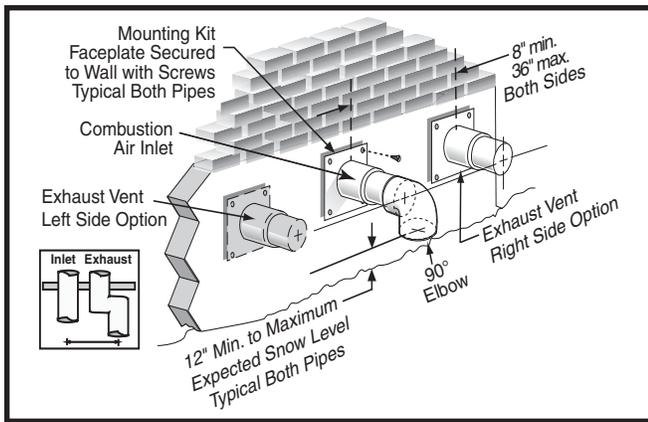
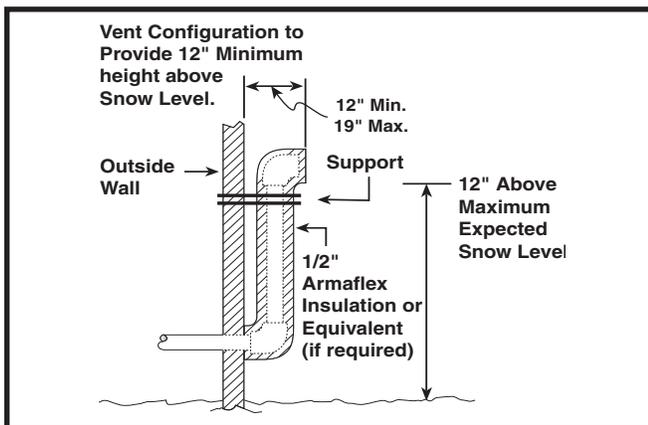
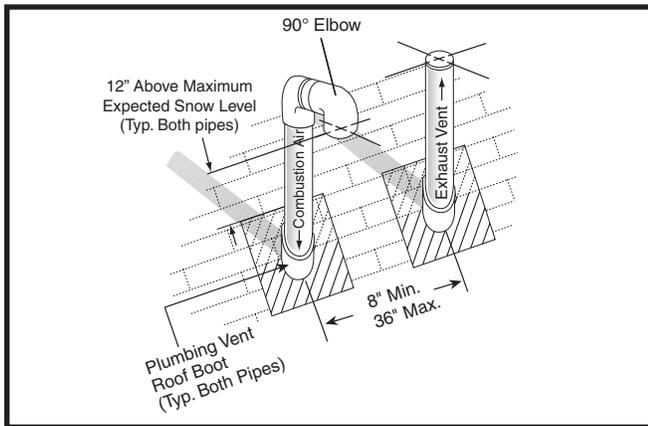

Figure 6. Exhaust and Combustion Air Pipe Clearances
Figure 8. Alternate Horizontal Vent Installation
Figure 9. Vertical Vent Termination
- The combustion air intake and the vent exhaust must be located in the same atmospheric pressure zone. This means both pipes must exit the building through the same portion of exterior wall or roof as shown in Figures 6 - 9 (page 12 - 13) and Figure 41 (page 44).
Vent and combustion air intake terminations shall be installed as depicted in Figures 6 - 7 (page 12) and in accordance with these instructions:
- When the vent pipe must exit an exterior wall close to the grade or expected snow level where it is not possible to obtain clearances shown in Figure 6, a riser may be provided as shown in Figure 8 (page 12). Insulation is required to prevent freezing of this section of pipe. For vent freezing protection, see page 13.
The combustion air vent and exhaust vent must be configured as shown in Figure 9. Improper vent terminations can cause the recirculation of flue gases which may result in furnace vibration. In severe cases, the furnace will cycle, due to the intermittent contact between the flame and the flame sensor. If you notice these oscillations occurring, check the vent configuration to make sure the exhaust vent does not have a 90 degree termination.
- The combustion air inlet pipe must have a 90 degree termination elbow, and pointed downwards as shown in Figure 6 & Figure 9 (page 13).
Termination spacing requirements from the roof and from each other are shown in Figure 9.
- The termination clearances shown in Figure 9 are maintained.